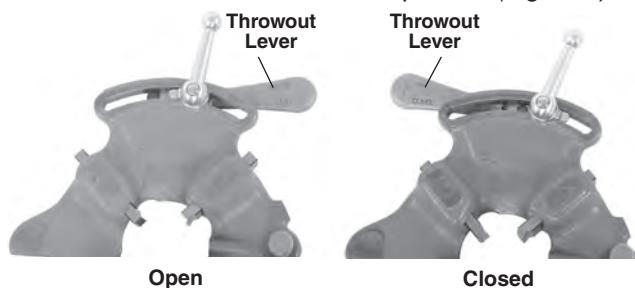

Figure 6 – Open/Closed Lever Position
2. Move throwout lever to OPEN position (Figure 6).